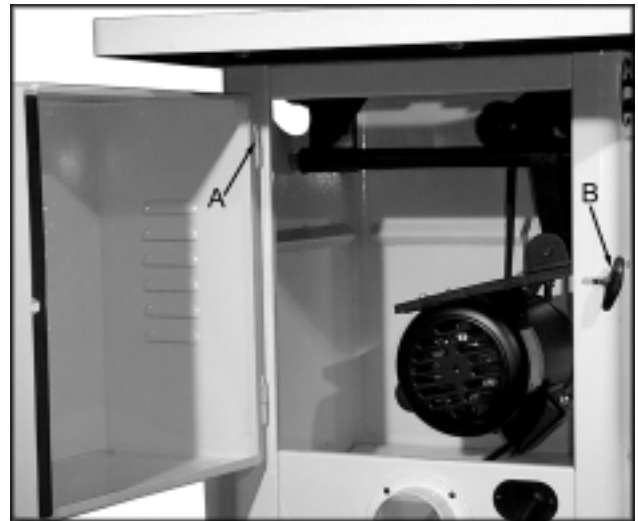

Fig. 1
1. Install motor cover by aligning pins (A, Fig. 1) brackets on the cabinet.
2. Fasten cover by pulling out latch (B, Fig. 1), closing the door, and releasing the latch.